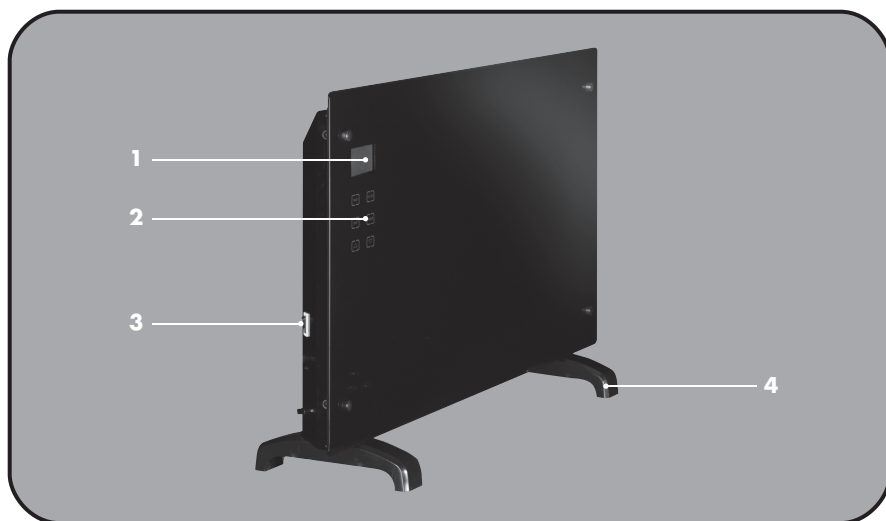

Fig. 2: Device overview
1. Make sure that the ON/OFF switch (see Fig. 2, No. 3) is at "0". Then connect the thermal convector to an earthed socket protected with an earth-leakage circuit breaker.
2. Now switch on the device by moving the ON/OFF switch (see Fig. 2, No. 3) to the "1" position. You will hear an acoustic signal.
3. Press the "ON/OFF" button on the control panel (see Fig. 2, No. 2) to quit Standby mode. The LCD display switches off.
4. Switch off the device by moving the ON/OFF switch (see Fig. 2, No. 3) to the "0" position.